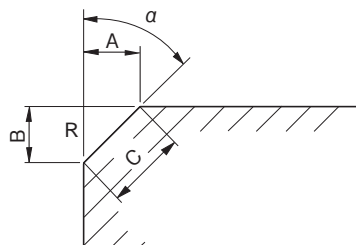

Fig. 3
- (2) Hold the Plates and set the Scale of the Plate Guide at the desired angle (pointed at by the Guide Pin)
- (3) Fix the Plate Guide in position by tightening the Hex. Socket Head Bolt 6 x 25.
- The tool has the limit of chamfering width which depends on a chamfering angle. (Fig.3, Table.2)